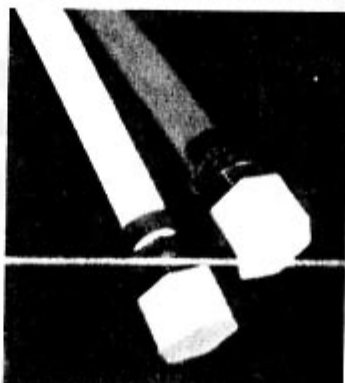

Fig. 27.
4. Open the drains on the hot and cold water pipes located under floor of unit. The drains consist of male pipe thread fittings with screw on caps. See Fig. 27.